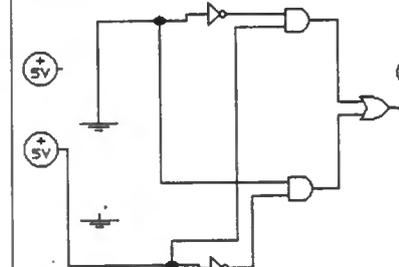

Fig. 7.27 Exclusive-OR gate (Assignment 7.2).
7. Connect the circuit shown in Fig. 7.27. The output of the circuit is connected to a logic level indicator whilst the two inputs are derived from +5V and ground points. Switch on the power and test the circuit by constructing its truth table.